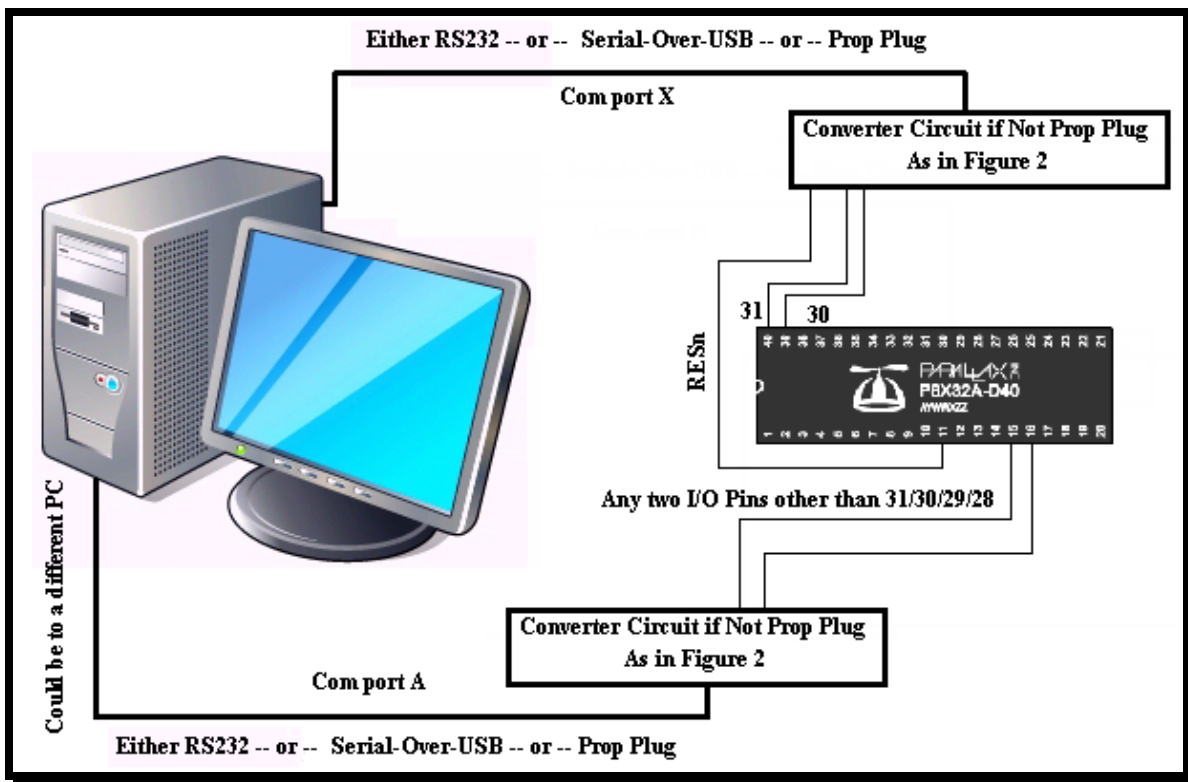

**Figure2:** A circuit for connecting the I/O pins of the Propeller to an RS232 port on the PC (From the Propeller Data Sheet Page 5)
Two I/O pins are needed; one for transmitting (Tx) from the propeller to the PC (Rx) and one to receive (Rx) into the propeller from the PC (Tx). However there is a problem. All the propeller's I/O pins are 3.3 V TTL and thus cannot be connected directly to the PC's RS232 port. Figure 2 below shows a circuit diagram that you can use to establish a connection.
Using the circuit in Figure 2 you can connect any two I/O pins from the Propeller to the PC's RS232 port. If you do not have an RS232 port you can establish a Serial-Over-USB serial port using the Parallax USB to Serial \(RS-232\) Adapter Part#28030 from Parallax Inc. ([www.Parallax.com](http://www.Parallax.com)). This will give you a 9-pin port just like the one shown in Figure2.
- 1- You would need to establish a second Com port using another Prop Plug or a Serial-Over-USB (or RS232) but with the extra circuitry in Figure 2.